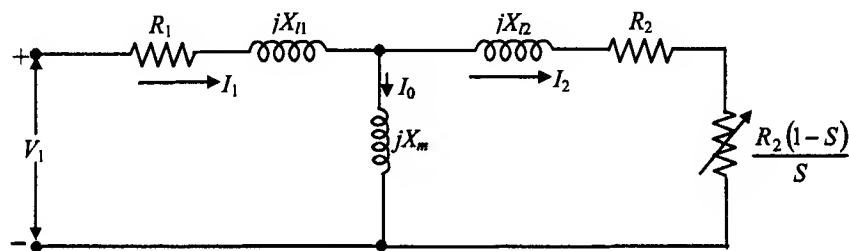

Fig. 2. Induction motor equivalent circuit referred to the stator.
- (a) Calculate the parameters of the equivalent circuit shown in Fig. 2.